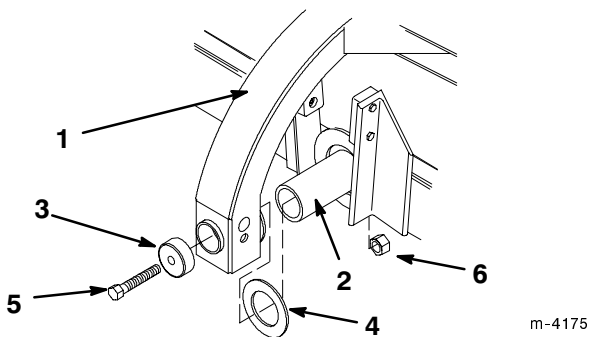

Figure 2
1. Slide the thrust washer and the pivot frame onto the shaft on the back of the broom head (Fig. 2)
2. Secure the pivot frame with a pivot cap, 3/4 in. (1.9 cm) x 10 1/2 in. (26.7 cm) bolt, and 3/4 in. (1.9 cm) nut (Fig. 2).